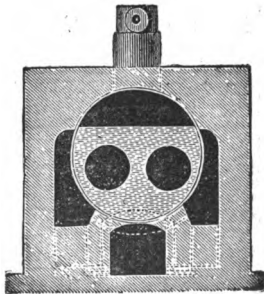

FIG. 7.—LANCASHIRE BOILER.
A. Into the "Lancashire," having two flues in the side, because on large sizes the single internal flue was too weak. (Fig.7.)